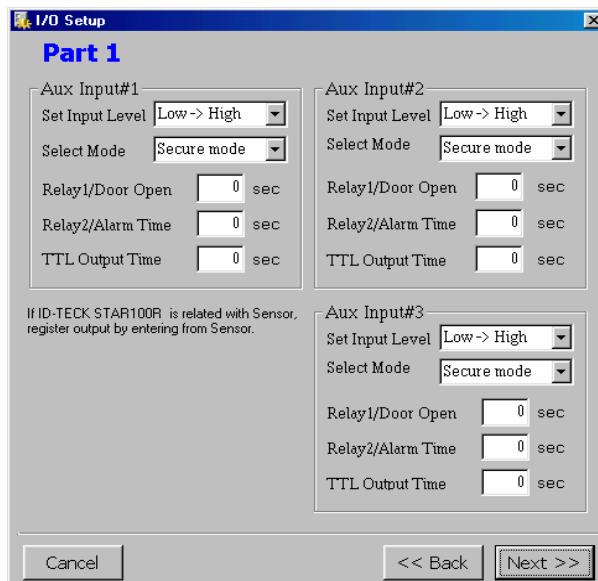

Figure 1.13
Up to three (3) auxiliary input devices can be connected to STAR100R. Fig 1.13 shows to where and how long an output will be sent when input signal is generated by auxiliary devices.